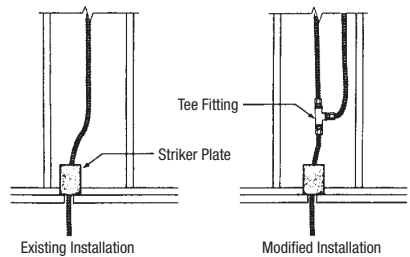

Figure 4.8 Extension of Existing Tubing Run
**Extensions to existing tubing runs:** A concealed run of tubing can be extended with a new pipe run to feed another appliance location, so long as there is sufficient capacity to supply both appliances simultaneously. If an accessible location for the modification is not available, the existing run can be modified with a tee fitting, resulting in a concealed fitting (Figure 4.8)